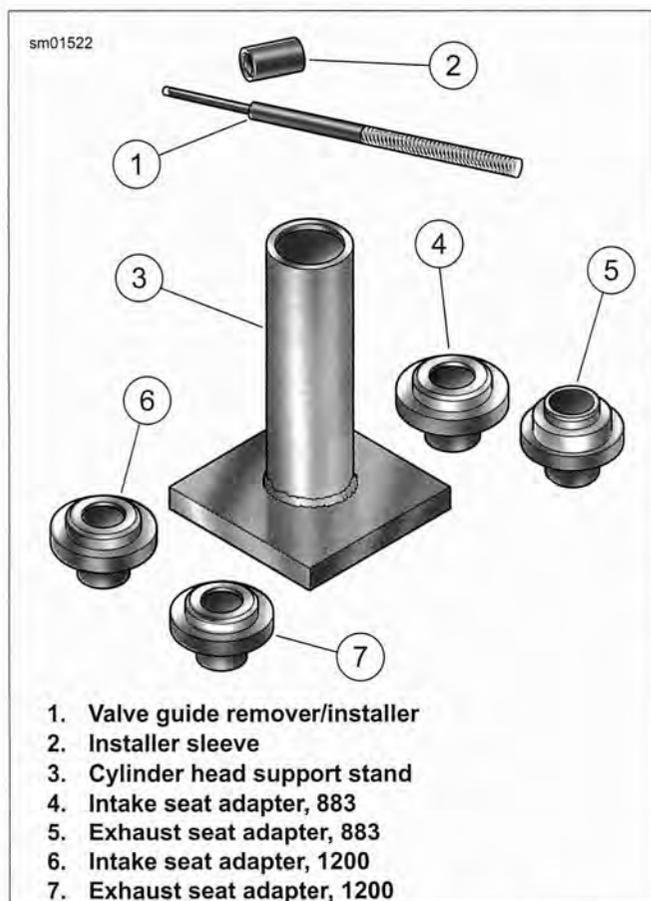
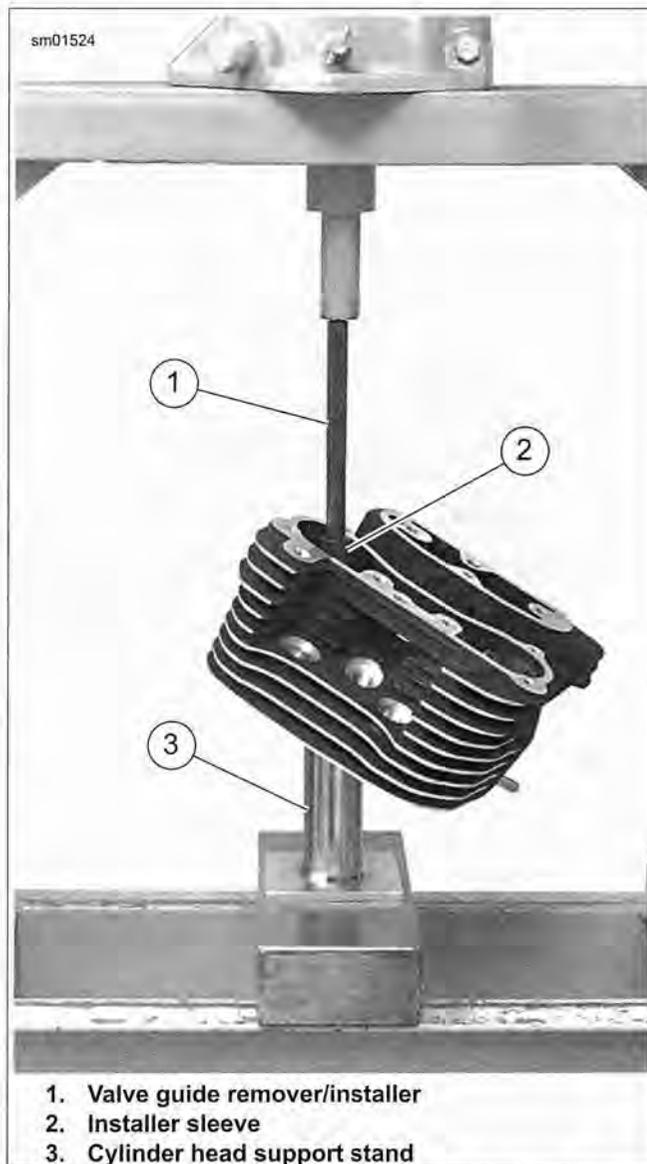

Figure 3-60. Valve Guide Replacement Tools
Figure 3-62. Installing Shoulderless Valve Guide
1. See Figure 3-60. Prepare cylinder head for valve guide replacement.
- b. Insert sleeve of intake (4 or 6) or exhaust (5 or 7) seat adapter into tube at top of CYLINDER HEAD SUPPORT STAND (Part No. HD-39782-A) (3).
Installer sleeve (item 2, Figure 3-60) is not used for removal of valve guide.
3. Center VALVE GUIDE REMOVER/INSTALLER under ram (3) of press. Apply pressure until valve guide drops free of cylinder head. Discard valve guide.
- a. See Figure 3-60. Insert sleeve of intake (4 or 6) or exhaust (5 or 7) seat adapter into tube at top of cylinder head support stand (3). Position cylinder head so that valve seat is centered on seat adapter.
- d. Place installer sleeve (2) over valve guide and then insert VALVE GUIDE REMOVER/INSTALLER (1) into installer sleeve.
- e. See Figure 3-62. Center VALVE GUIDE REMOVER/INSTALLER (1) under ram of press and apply pressure only until valve guide is started in bore and then back off ram slightly to allow valve guide to center itself.